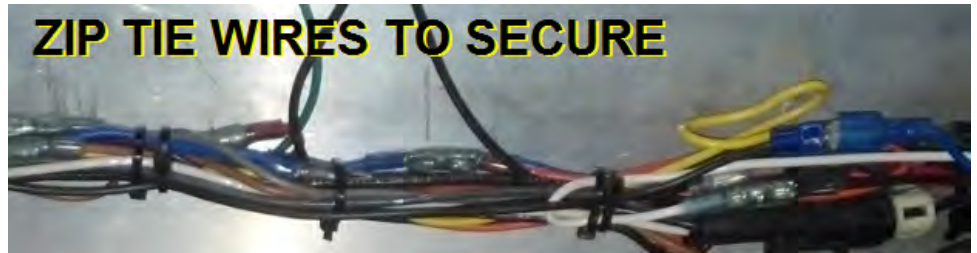

FIG. 11.12
13. Secure the added wires to existing wires with the zip ties provided. Cut excess material from zip ties as needed. (FIG. 11.12)